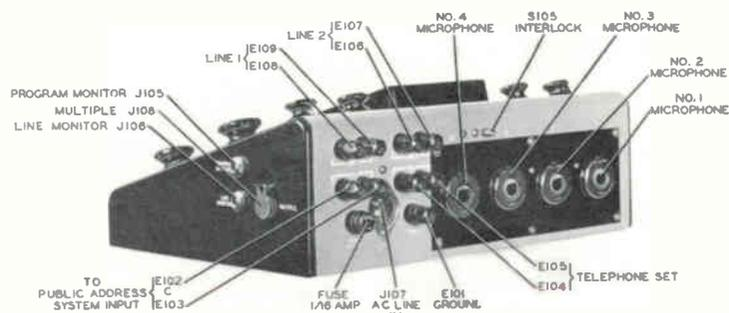

Figure 2-1. 212Z-1 Remote Amplifier, Connections
- g. Plug a headset into PROGRAM MONITOR jack, J105. (See figure 2-1.)
#### 3.1.1 CONNECTIONS. Refer to figure 2-1.